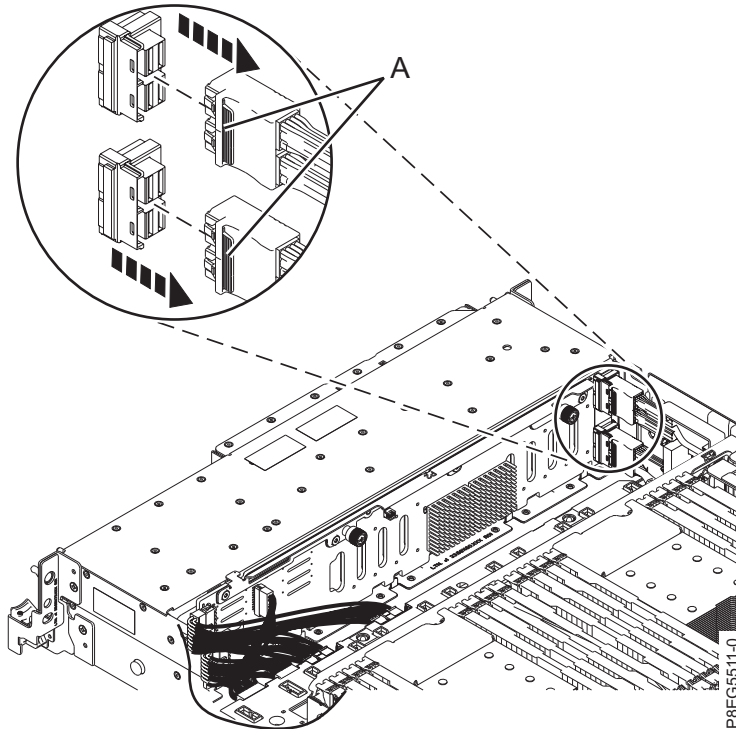

Figure 14. Disconnecting the front SAS cables
3. Label the front SAS cables, paying attention to the connectors each cable attaches to on the disk drive backplane and the SAS RAID internal adapter. Disconnect the front SAS cables from the disk drive backplane by pressing the latch (A) and unplugging the cable as shown in Figure 14 on page 17.